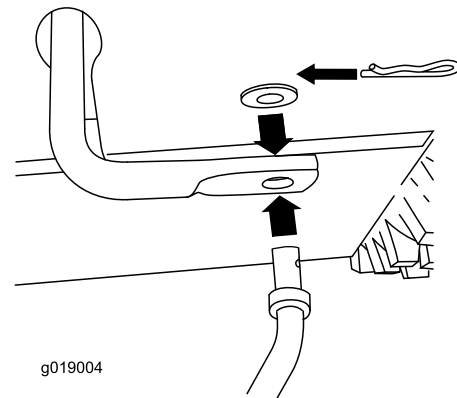

Figure 6
1. Insert the lower end of the rod into the lower-link arm so that the bent end of the speed-control rod faces rearward (Figure 6).
2. Secure the lower end of the speed-control rod with a flat washer and a hairpin cotter (Figure 6).